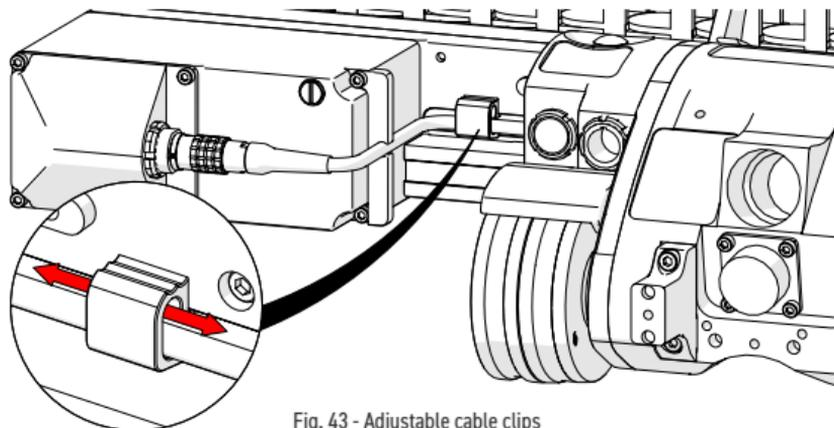

Fig. 43 - Adjustable cable clips
3. Route the cable through the adjustable clips on the raster arm (*Fig. 43*). These clips slide along the raster arm, allowing the raster arm cable to be positioned as required.